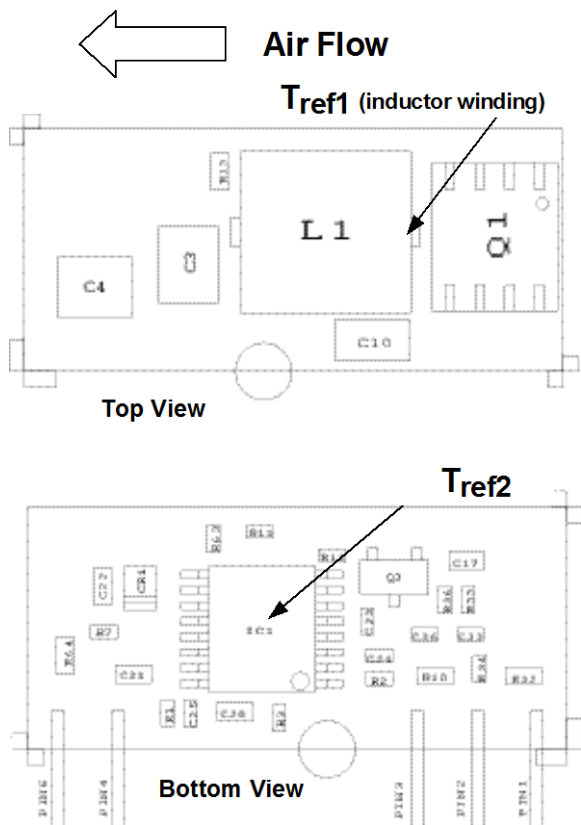
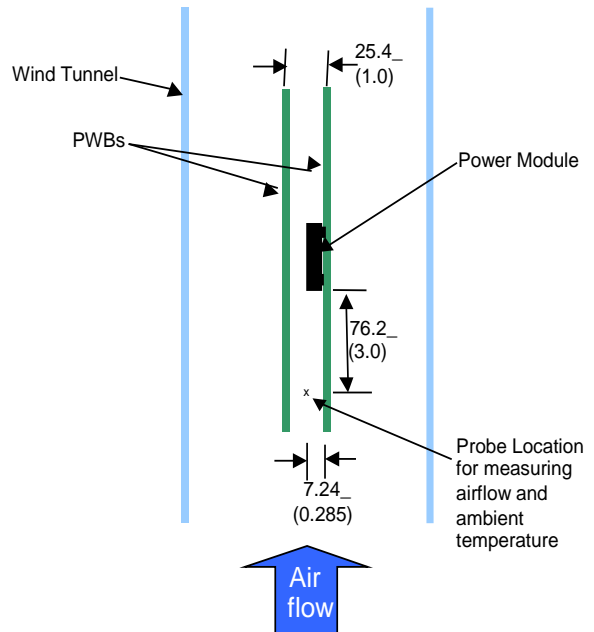

Figure 31. Tref Temperature measurement location.
Figure 32. Thermal Test Set-up.
To provide over temperature protection in a fault condition, the unit relies upon the thermal protection feature of the controller IC. The unit will shutdown if the thermal reference point T_{ref2} , (see Figure 31) exceeds $140^{\circ}C$ (typical), but the thermal shutdown is not intended as a guarantee that the unit will survive temperatures beyond its rating. The module will automatically restarts after it cools down.
Considerations include ambient temperature, airflow, module power dissipation, and the need for increased reliability. A reduction in the operating temperature of the module will result in an increase in reliability. The thermal data presented here is based on physical measurements taken in a wind tunnel. The test set-up is shown in Figure 32. Note that the airflow is parallel to the long axis of the module as shown in figure 31. The derating data applies to airflow in either direction of the module’s long axis.
The thermal reference point, T_{ref 1} used in the specifications of thermal derating curves is shown in Figure 31. For reliable operation this temperature should not exceed 125°C.